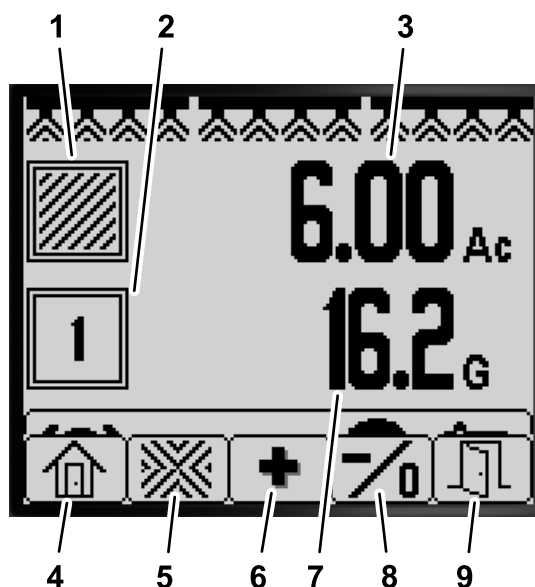

Figure 77
- From the Home screen, press and hold button 5 to open the menu bar and press button 2 to select the Sub-Area screen (Figure 77).
button 3 to select the Sub-Area screen (Figure 77).
2. Use the InfoCenter buttons (Figure 77) to perform the following actions: